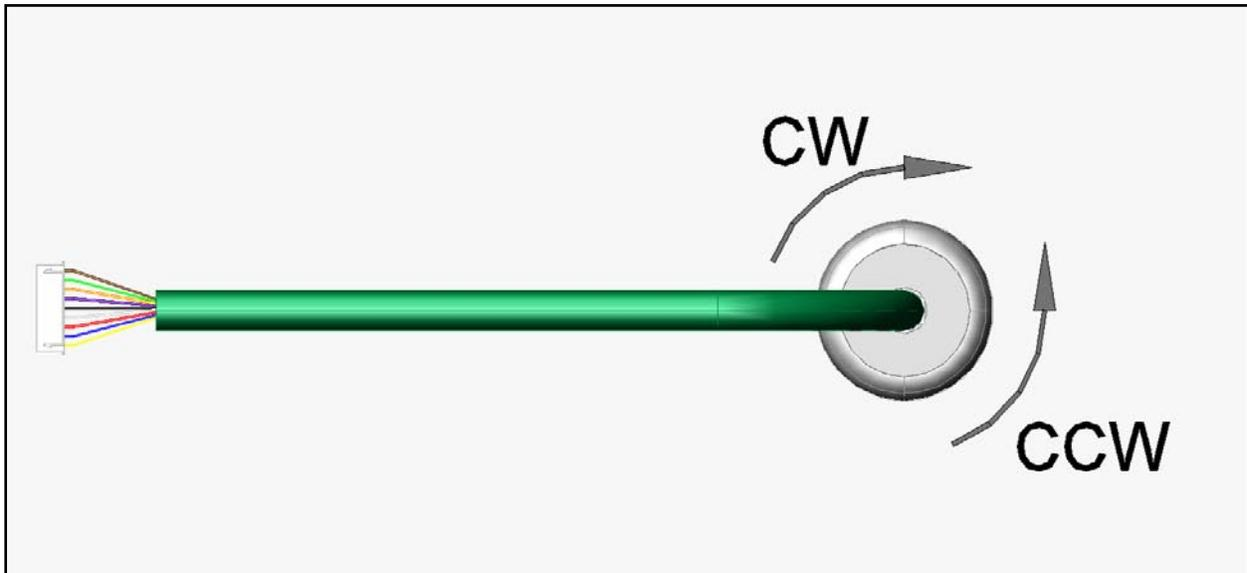

FIGURE 11 - MOTOR ROTATION DIRECTION CONVENTION
The ERSC module uses a Clock-Wise (CW) and Counter Clock-Wise (CCW) motor rotation definition. The reference for this distinction is based upon viewing the MDR from the cable exit end of the roller as depicted below in Figure 11.